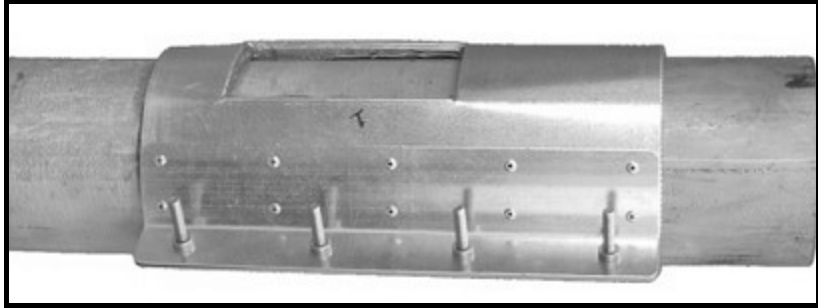

Figure 1-33: PDJ Jacket Installation
3. Install the jacket on the pipe as shown in Figure 1-33 below. Tighten the clamping screws so that some fluid drips from the bottom of the jacket.